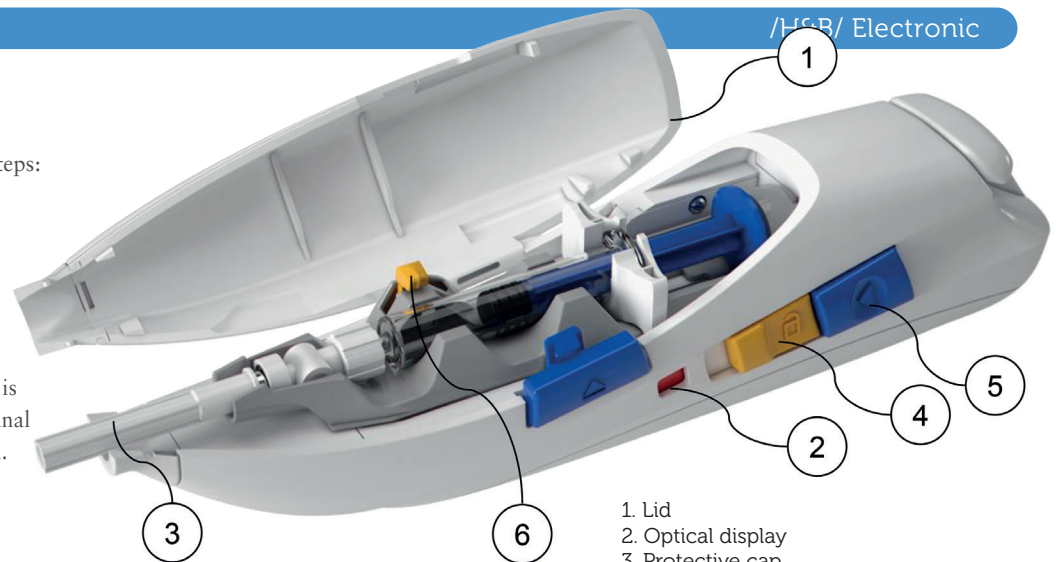

Figure 1: Reusable autoinjector for prefilled syringes.
To illustrate how the four-step-technology works, we will use the example of BETACOMFORT®, a device which has been adapted by /H&B/ for Bayer AG to meet the needs of multiple sclerosis patients (Figure 1).
- Reusable injector (Figure 1) – injection device with inserted syringe. The injection is performed by pressing a release element by spring tension or manually. Manual resetting of the mechanism.